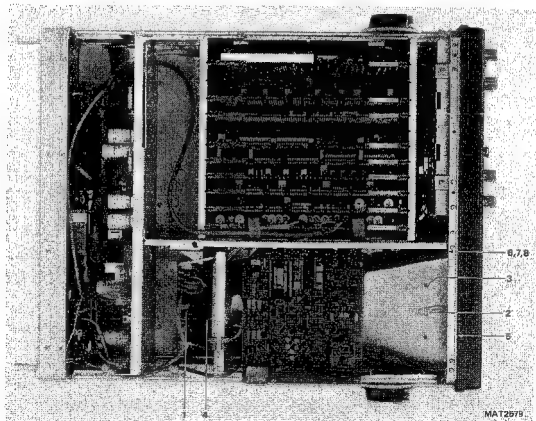

Figure 15.7 C.R.T. fixing materials.
15.1.5 C.R.T. fixing materials (figure 15.7)